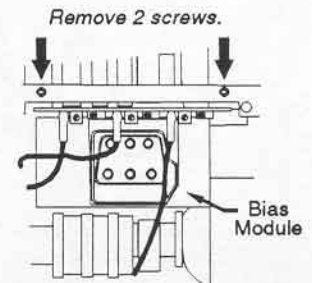

Figure 5-22.
- d) Remove the two Phillips screws which secure the module to the rectangular top bracket. See Figure 5-22.